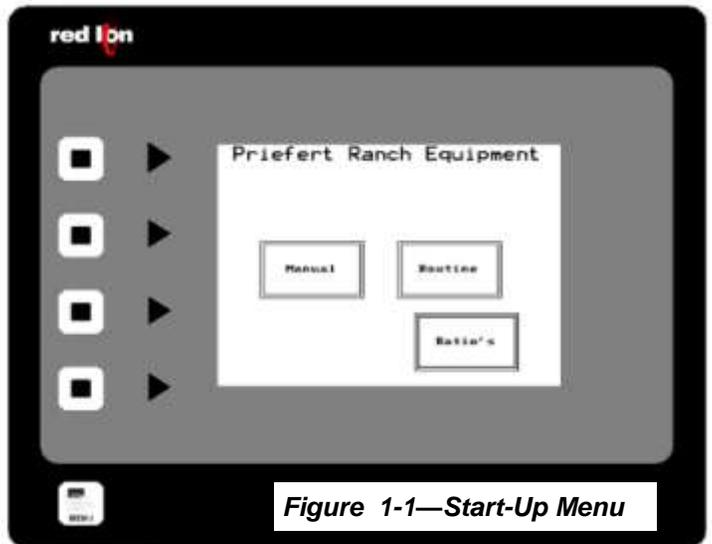

Figure 1-1—Start-Up Menu
- Using a flat-head screw driver remove the lock clamps to open the control panel box. Set aside the locking clamps. Refer to Figure 1-1 below for circuit board location.